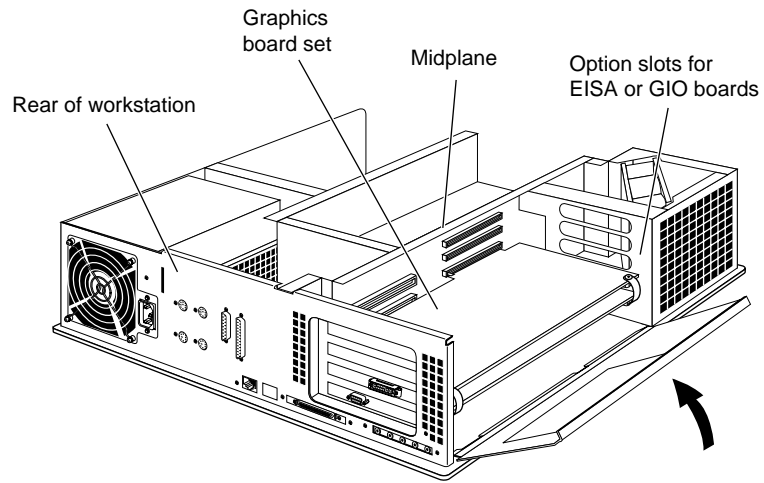

Figure 2-28 Closing the Metal Panel
5. Tip the metal panel up in front of the boards until it snaps into place (see Figure 2-28). This completes installation of the Indigo² IMPACT graphics board(s). You can now connect the internal power cables to the midplane as shown in the new few steps.